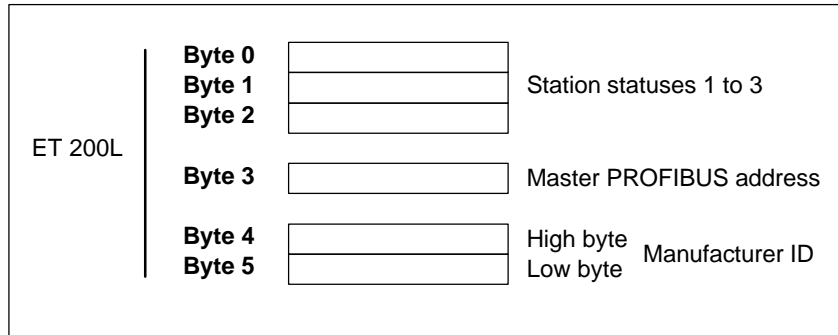

Figure 5-1 Structure of the Slave Diagnosis
**Definition of Station Status** Station statuses 1 to 3 provide an overview of the status of a DP slave (refer to Figure 5-1, bytes 0 to 2).
The Master PROFIBUS Address diagnostic byte stores the PROFIBUS address of the DP master which has assigned parameters to the DP slave (refer to Figure 5-1, byte 3).
A code is stored in the manufacturer identification that describes the type of the DP slave (refer to Figure 5-1, bytes 4 and 5).